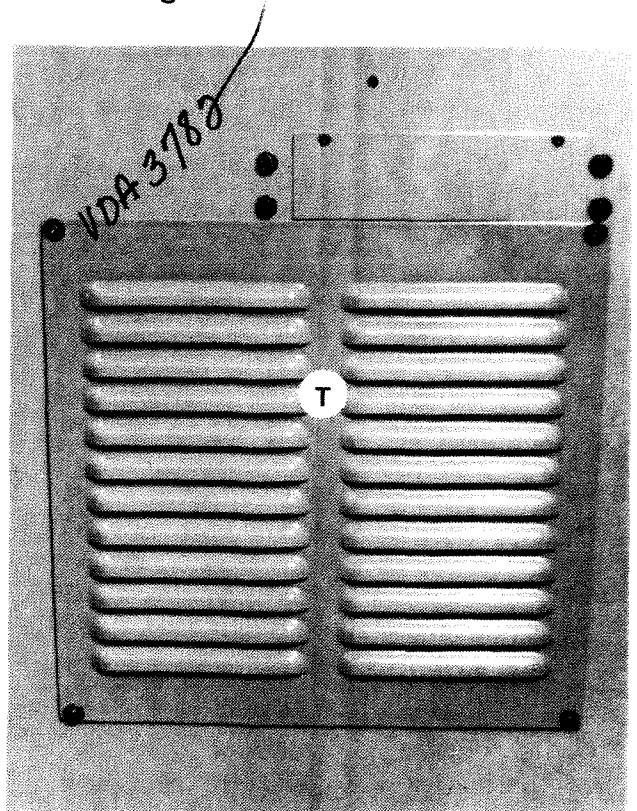

Figure 4.7 - Pedestal Rear Cover
9. Remove pedestal rear cover "T", Figure 4.7, to prevent damage when the motor mounting plate is raised.
24. Install pedestal rear cover "T", Figure 4.7 .